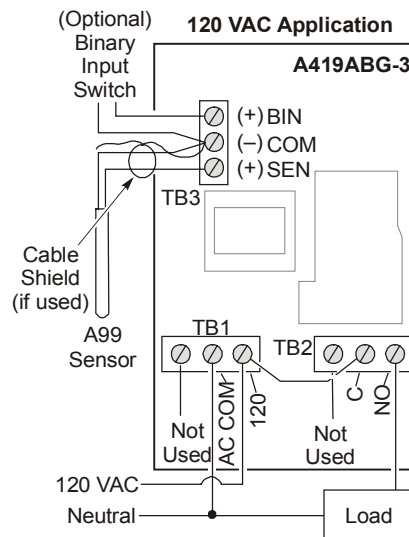

Figure 2: Typical 120 VAC Application Wiring
Observe the following guidelines and refer to Figure 2 and Table 1 when wiring the sensor to the A419 control.
- A99 temperature sensors are not polarity sensitive. Wire the leads to (+) SEN and (-) COM on the sensor terminal block (TB3). See Figure 2. Keep the leads between the control and sensor as short as possible/practical in your application. The additional resistance in long sensor leads creates error between the actual temperature and the displayed temperature. Refer to Table 1 when extending sensor leads.
- b. Use a reliable AC voltmeter to check the voltage between the **COM** and **120V** terminals on terminal block **TB1**. Refer to Figure 2.